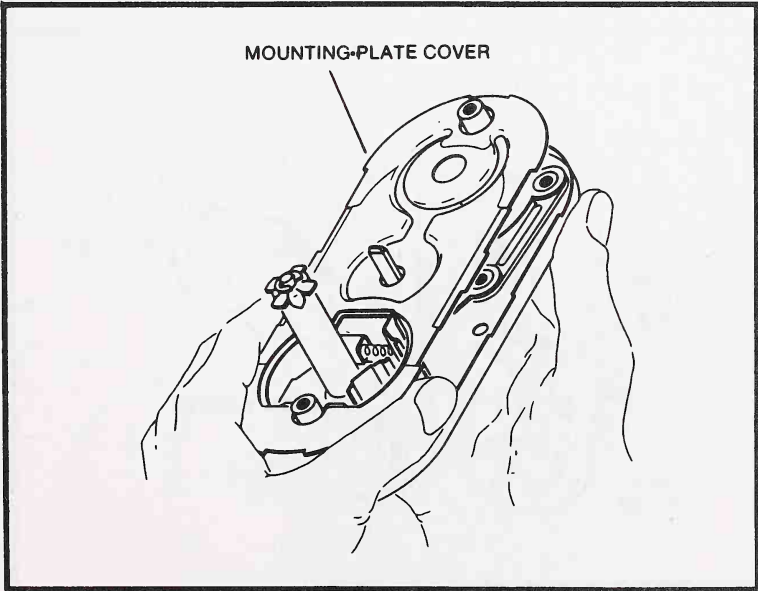

Fig. 18-73.
2. Lift off the mounting-plate cover (Fig. 18-73).